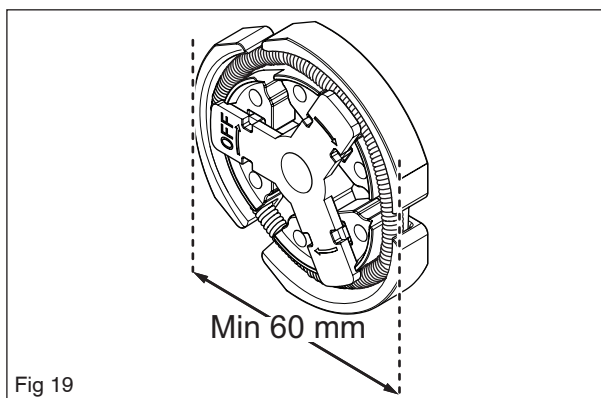

Fig 19
- Check the thickness of the clutch shoes by measuring them with slide callipers across the whole clutch hub. If the thickness is below 60 mm, the clutch must be replaced. See figure 19.